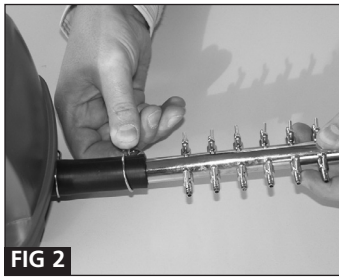

FIG 2
- Insert the chrome plated iron manifold into the end of the rubber tube and fasten securely in place with a metal clip provided (See Fig 2).